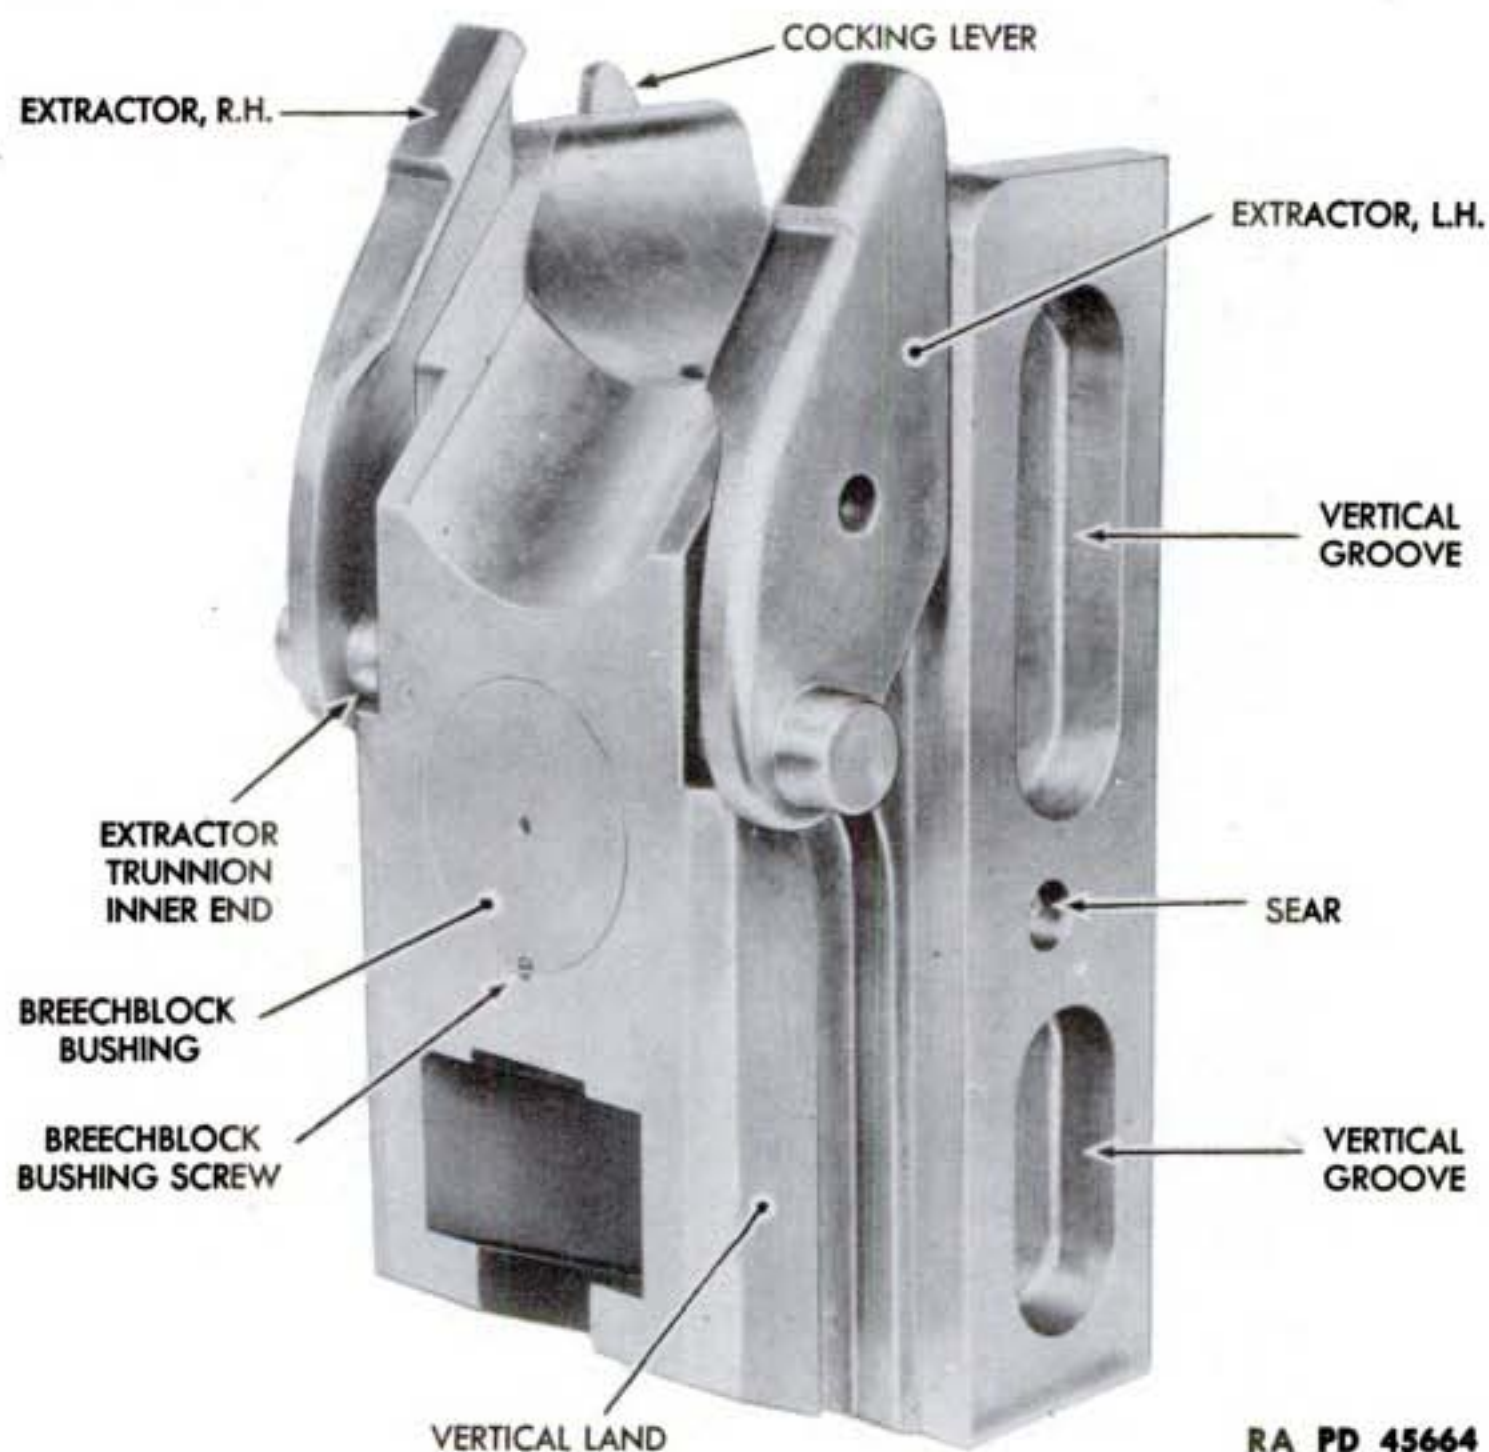
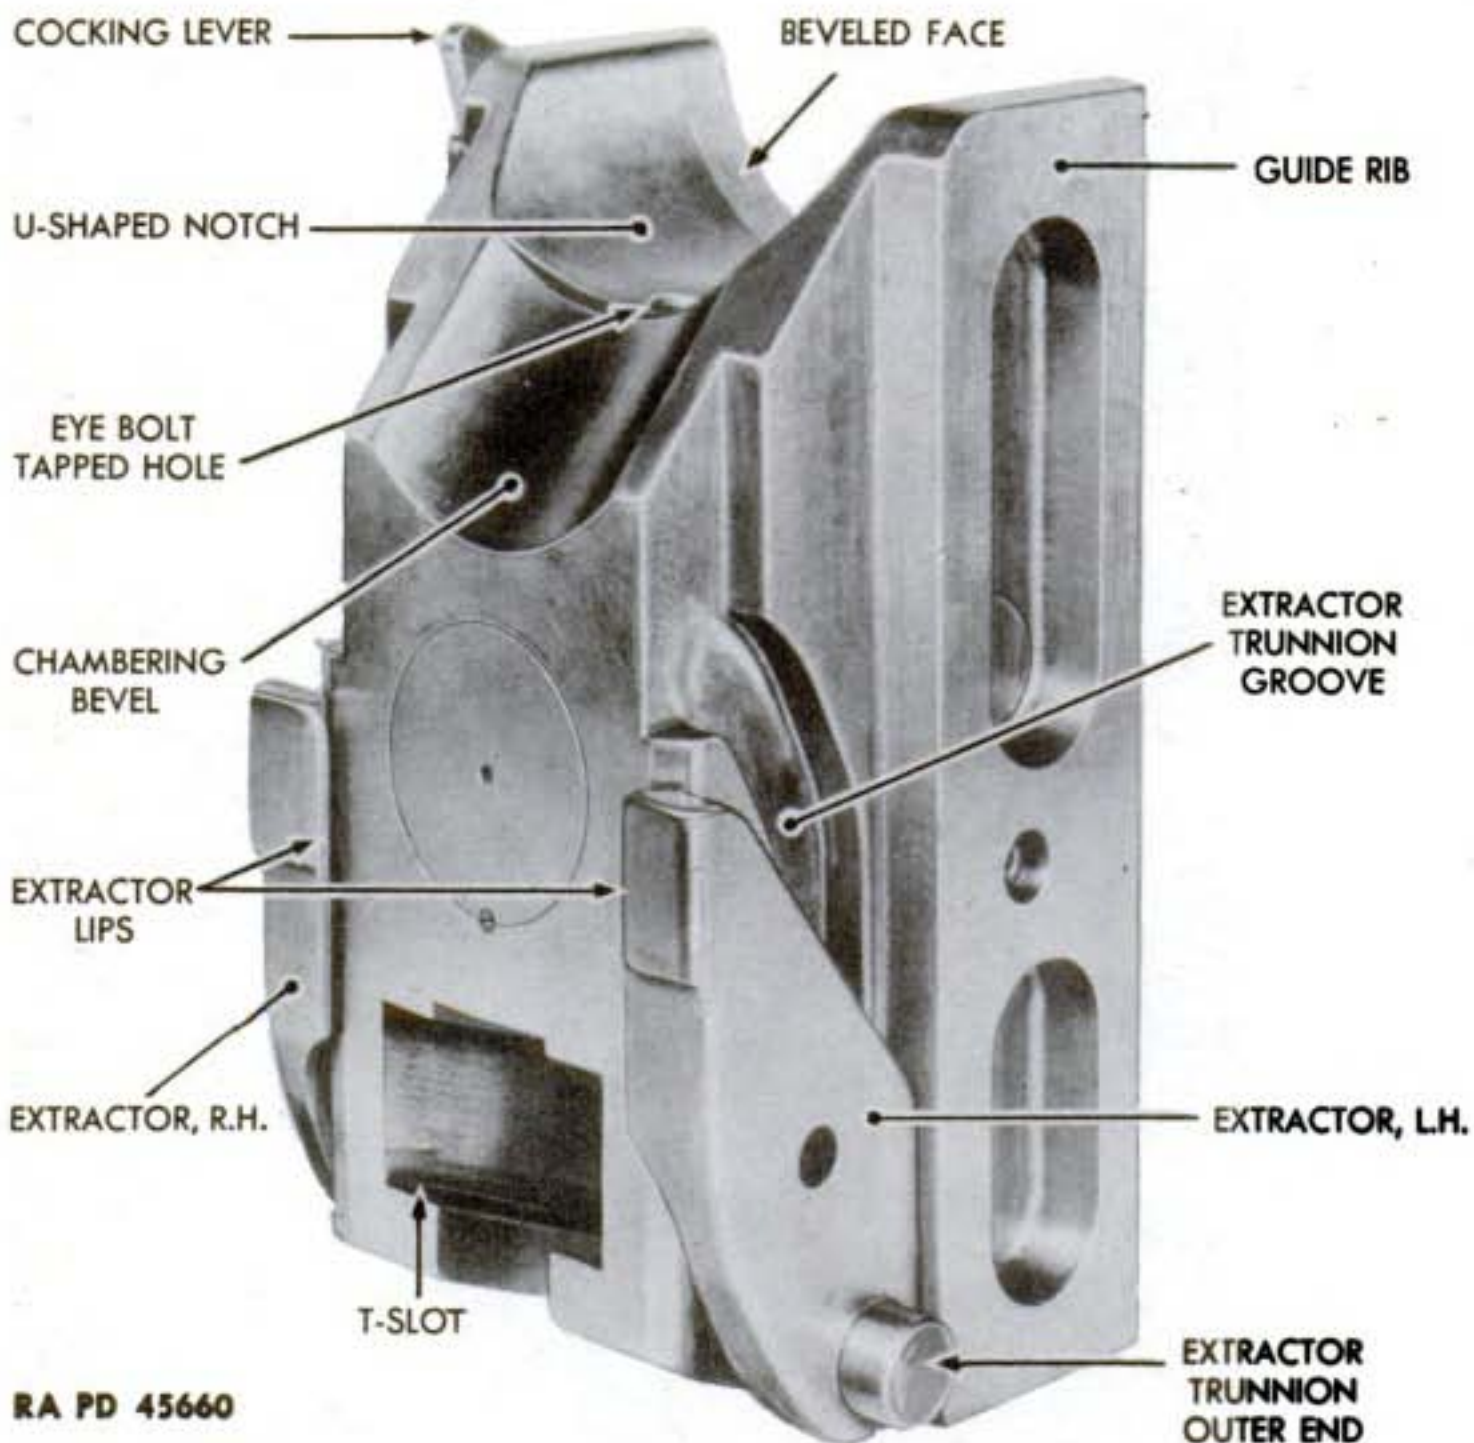

Figure 161—Breechblock and Extractors—Battery Position
Figure 162—Breechblock and Extractors—Breech Open
(1) The breechblock is of the vertical sliding type and has a guide rib on each side which slides in a corresponding groove in each side of the breech ring recess (figs. 161 and 162).
guide ribs of the breechblock, the grooves in the breech ring (for the guide ribs of the breechblock), and the rear wall of the breech ring recess, are all inclined so that when the breechblock rises, it also moves forward and thereby completes the seating (chambering) of the round in the firing chamber (figs. 161 and 162).
(3) The bottom of the breechblock contains an inclined T-slot in which cross heads of the breechblock operating crank slide in order to raise or lower the breechblock assembly (figs. 161 and 162).
(4) In each side of the breechblock is a groove in which the inner ends of the extractor trunnions of the two extractors slide. The lower ends of these grooves are parallel to the breechblock guides; however, the upper ends curve toward the breechblock front face in order to impart an accelerated motion to the extractors when extracting and ejecting a fired cartridge case (fig. 161 and 162).
(5) There are flats on the vertical lands (on each side of the breechblock). These lands provide a surface for corresponding flats on the inner trunnions of the extractors. The breechblock is locked in its open position when the flats of the inner trunnions of the extractors are on the flat portion of the vertical lands of the breechblock (figs. 161 and 162).
(9) The weight of the breechblock is reduced by cutting vertical grooves into each side of the breechblock (fig. 161). A tapped hole in the top of the breechblock is for an eyebolt to facilitate removing or installing the breechblock in the breech ring (fig. 162).
c. Extractors (figs. 161 and 162).
(1) The right and left extractors are short, heavy levers that are supported vertically between the sides of the breechblock and the sidewalls of the breech ring recess.
(2) Each side of the lower end of the extractor carries a trunnion that projects outward and inward from the extractor (figs. 161 and 162). The outer trunnions are located in short curved grooves in the walls of the breech ring recess; and these outer trunnions prevent any vertical movements of the extractors. The inner trunnions slide in curved grooves in the sides of the breechblock; and as the breech-
(1) The chain terminal crank consists of a hub that is internally splined and externally has a cylindrical machined surface except for a short integral lever extending upward and terminating in a fork for attaching the chain terminal of the breech closing spring mechanism.
(2) Splined interior of hub slides onto the right end of the splined breech operating shaft while the cylindrical exterior surface is supported in a bronze bushing in the transverse bore of a lug on the breech ring.
(3) In the cylindrical machined surface of the operating crank is an annular groove that enables an operating crank detent (screwed into the breech ring so as to engage in an annular groove) to maintain the position of the chain operating crank.
(4) The function of the chain terminal crank is to provide a means by which the breech closing spring mechanism can raise the breechblock into a closed position.
i. Firing Plunger. The firing plunger is cylindrical in form with an integral collar near the middle of the plunger. The firing plunger is retained in a bored hole through the right side of the breech ring (fig. 161). The flat inner end of the firing plunger is in alinement with an arm on the sear when the breechblock is in its closed position. The rounded outer end of the firing plunger projects outward from the breech ring so that it can be operated by the firing mechanism on the mount. The firing plunger is held in the breech ring by firing plunger retainer.